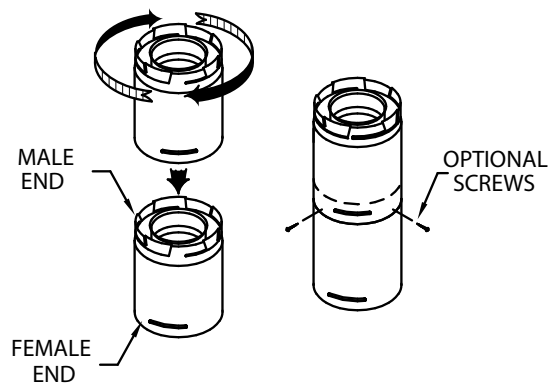
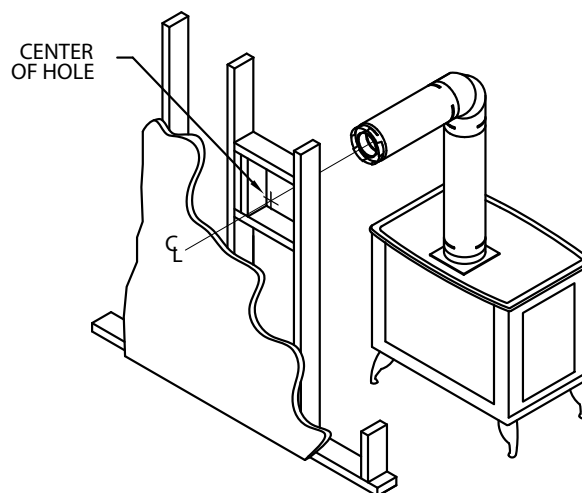

Figure 5
Figure 6
(1) Twist-lock procedure: Line up locking lugs on male and female ends of pipe sections. Insert the male end of pipe into the female end until the locking lugs are covered. Twist the female end clockwise an eighth of a turn to lock sections together (**Fig. 5**). Screws are not required to secure the joint, but are acceptable provided they do not penetrate the inner wall of the vent pipe.
(2) Horizontal runs of vent pipe must be supported to prevent any downward sags. Horizontal pipe sections should be supported at least every 4-feet. Wall Straps can be used for this purpose. Alternatively, plumbers tape or other suitable noncombustible material can be used to support the vent pipe.
(3) DirectVent Pro venting requires no sealant, unless specifically required by appliance manufacturer.
**Step 3.** With the Appliance Adaptor and Pipe Section attached to the appliance, slide the appliance into its correct location, and mark the wall for a square hole of the appropriate size. Refer to **Table 1, page 8** for the correct size square opening unless otherwise specified by the appliance manufacturer's clearance requirements. The centerline of the pipe should line up with the center of the square hole (**Fig. 6**). Cut and frame the square hole in the exterior wall where the vent will be terminated. A Wall Thimble or Wall Firestop may be required by the appliance manufacturer as additional thermal protection for the wall. If the